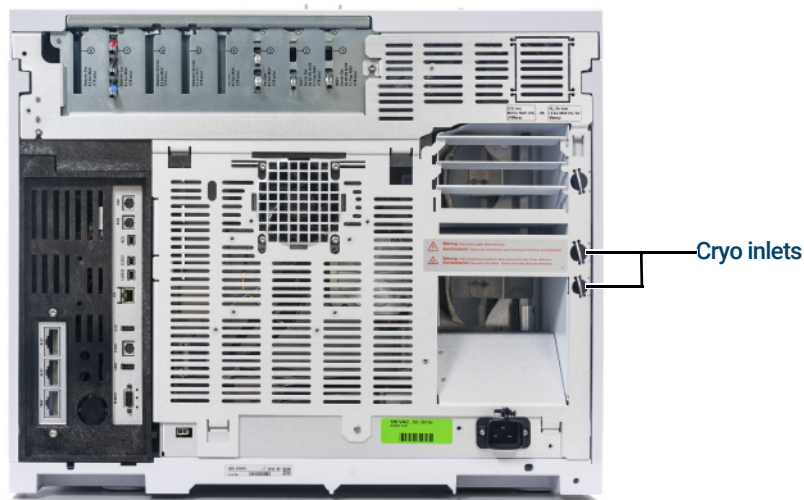

Figure 14. N₂ cryogenic cooling valve connections
- 2 Locate the inlet for coolant on the rear of the GC. Prepare enough tubing to reach from the supply tank to this outlet. See Figure 14.